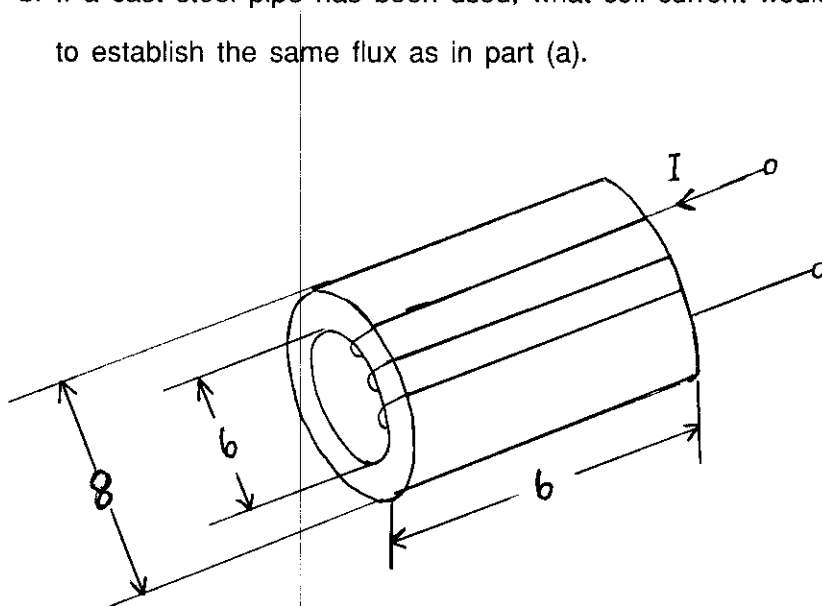

figure 1
1. A cast iron pipe has a 100-turn coil wound on it, as illustrated in figure 1.